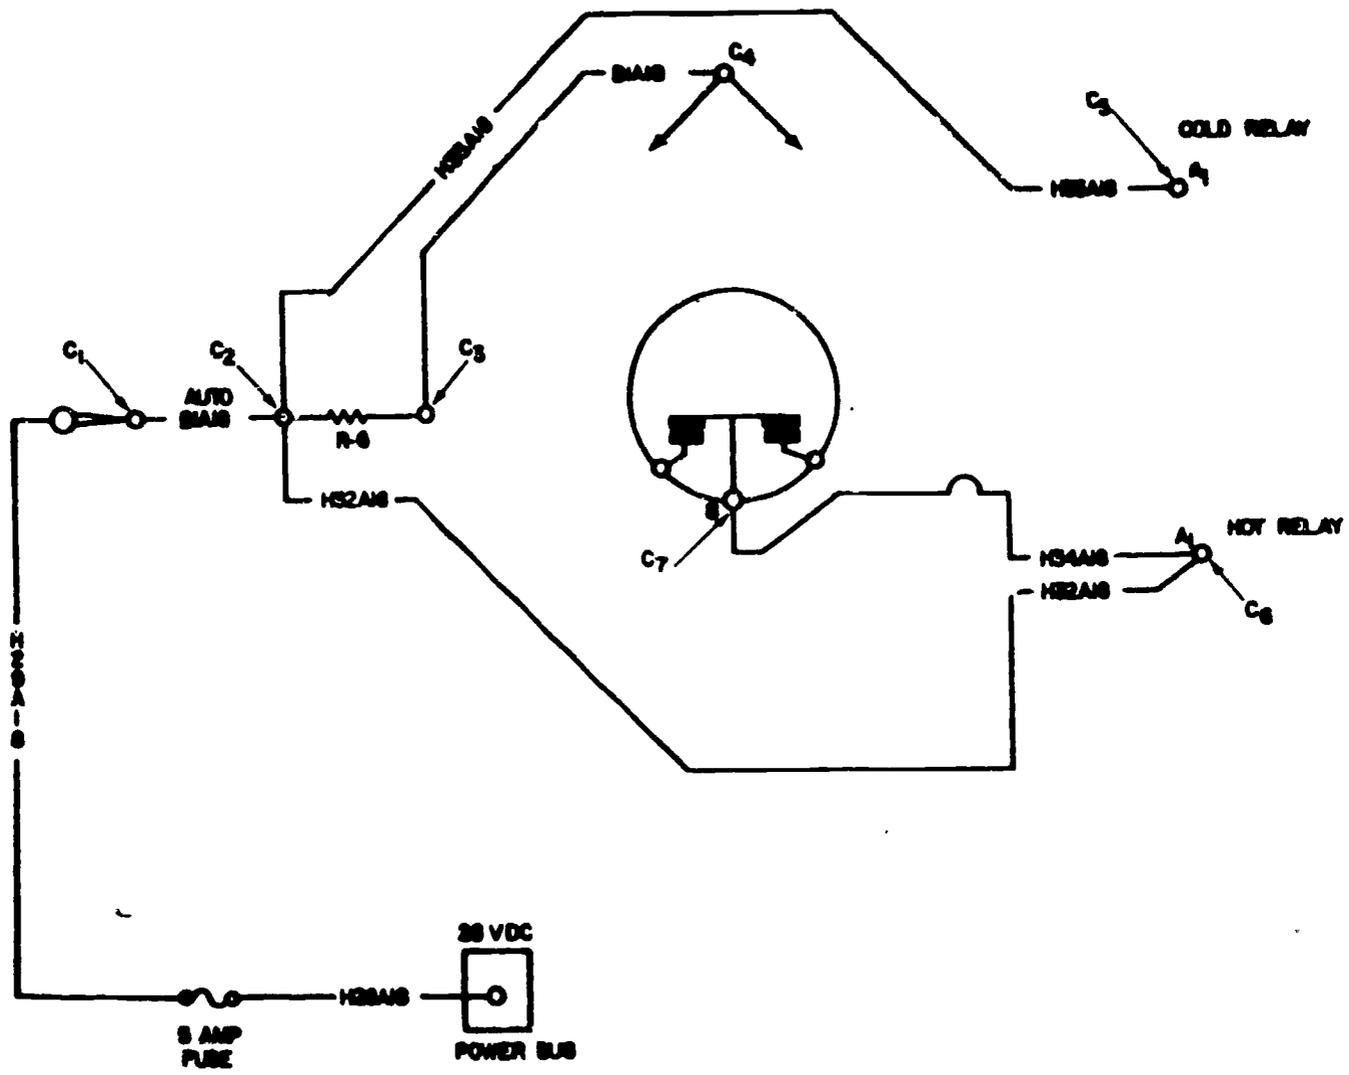

Figure 1.
(1) The first step is to ground the black meter lead to the common ground. Set the meter up to read 28 volts dc.
c. With the switch in the AUTO position, use the red meter lead test probe to take the following voltage readings. Use figure 1 and the one on the trainer and take voltage readings at the points indicated in figure 1. Record the readings as required in the following steps.
Correct responses for figure 1: